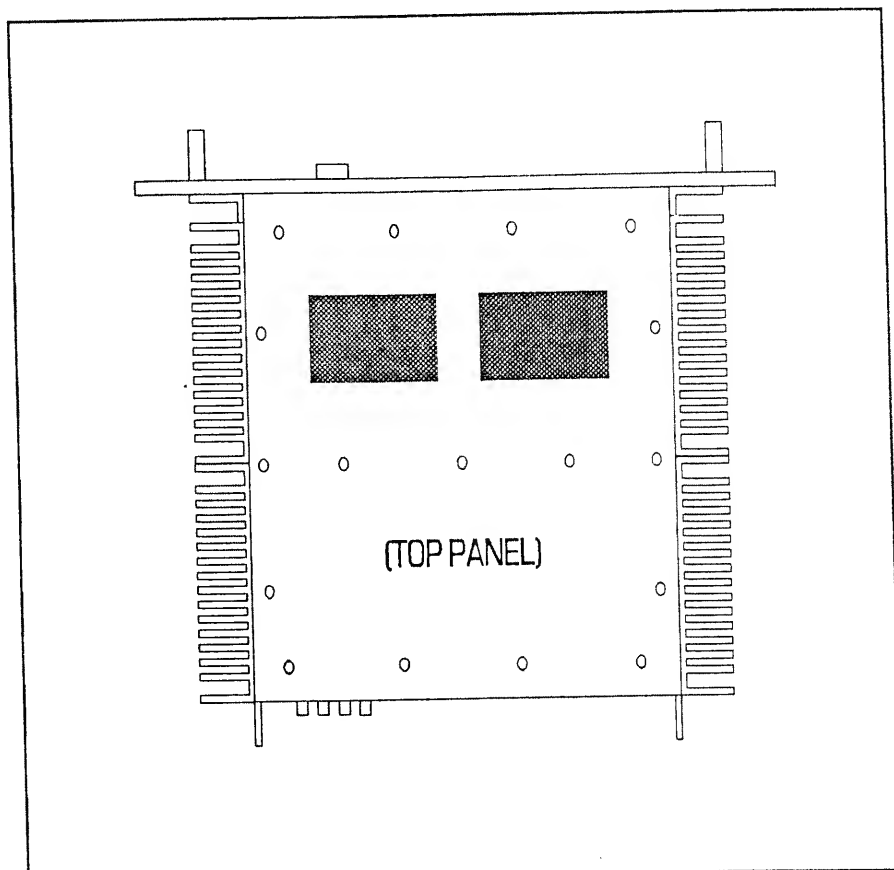

Figure 1 Top Cover Removal
2. Remove and save the seventeen screws securing the top cover. Refer to Figure 1 for the exact screw locations.